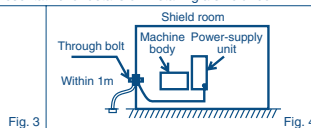

Fig. 4
- If the wire-cut EDM cannot be grounded in the shield room, connect the wire-cut EDM's grounding cable to the shield room's grounding terminal (through bolt) as shown in Fig. 4.